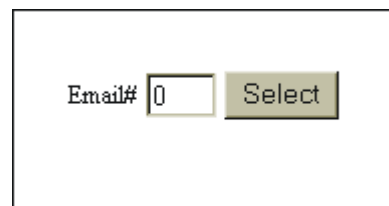

FIG. 315: ENTERING EMAIL NUMBER
Step 16. Click on Send Email. Send Email appears in the menu and Email # appears to the right with a Select button. You can create up to 10 custom e-mails. Simply type in the e-mail number you want to go with Local Input #1. In our example we selected Email #0. (See Fig. 315)